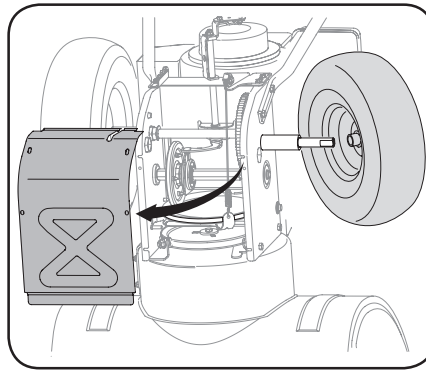

Figure 4-20
- Remove frame cover from underside of unit by removing self-tapping screws which secure it. See Figure 4-4. Remove right-hand wheel by removing screw and bell washer which secure it to axle. See Figure 4-20.